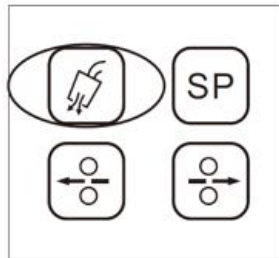

Figure 3-8 Gas check of a robotic wire-feeder
1. Gas check of a robotic wire-feeder is shown in Figure 3-8.